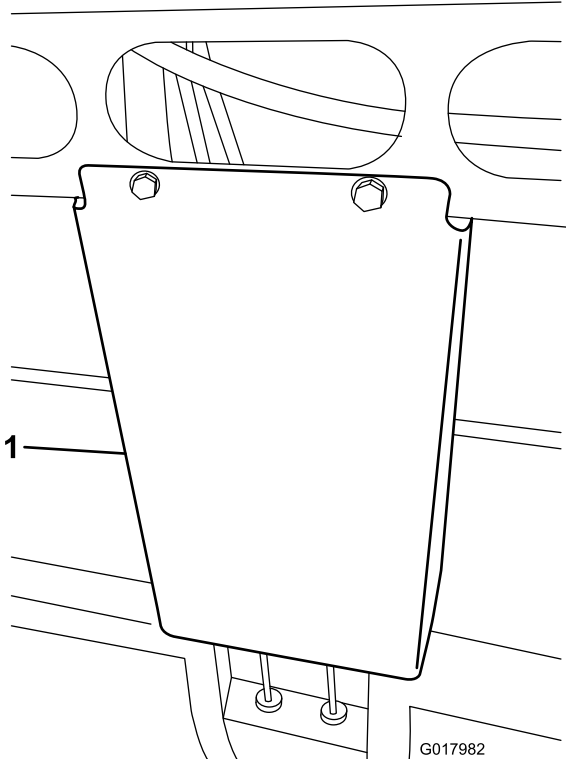

Figure 1
8. Remove the shield covering the hydraulic lines under the front, center of the machine (Figure 1).